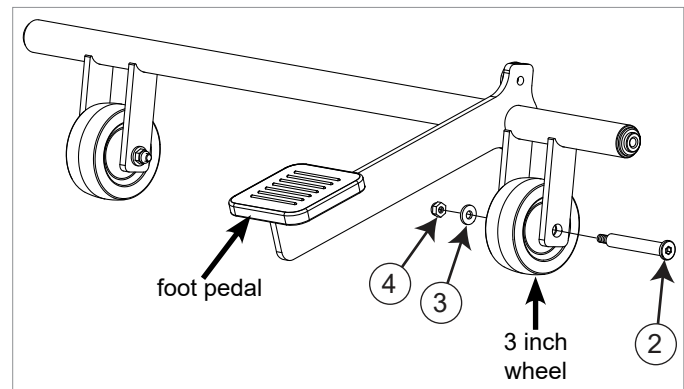

Fig. 3
3. Mount the other 3 inch wheel to the other end of the wheel support. Use the long axle, one M6 washer, and one M6 nylon hex nut to mount the wheel to the support as shown in Fig. 3. Do not tighten the nut because it will be removed in a later installation step.